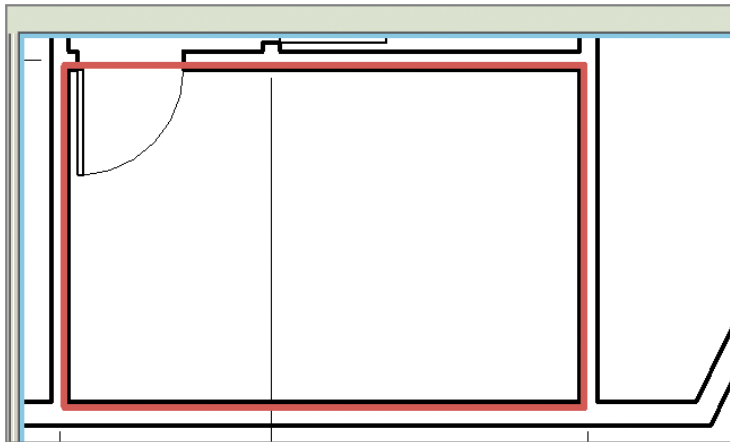

FIGURE 3.28 Revit Architecture outlines the boundary.
1. Using the Automatic Ceiling option, add a ceiling toward the bottom of the image (Figure 3.28). As you hover over the space, Revit Architecture indicates the boundary.